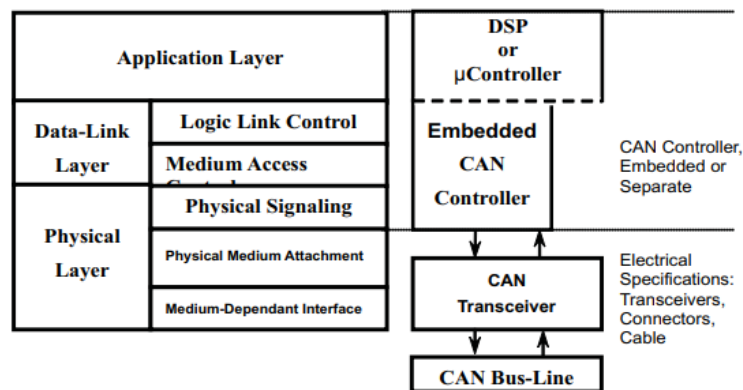

Figure 1. The Layered ISO 11898 Standard Architecture
Introduction: The CAN bus was developed by BOSCH (1) as a multi-master, message broadcast system that specifies a maximum signaling rate of 1 megabit per second (bps). The CAN Standard CAN is an International Standardization Organization (ISO) defined serial communications bus originally developed for the automotive industry to replace the complex wiring harness with a two-wire bus. The specification calls for high immunity to electrical interference and the ability to self-diagnose and repair data errors. These features have led to CAN's popularity in a variety of industries including building automation, medical, and manufacturing. The CAN communications protocol, ISO-11898:2003, describes how information is passed between devices on a network and conforms to the Open Systems Interconnection (OSI) model. that is defined in terms of layers. Actual communication between devices connected by the physical medium is defined by the physical layer of the model. The ISO 11898 architecture defines the lowest two layers of the seven layer OSI/ISO model as the data-link layer and physical layer in Figure 1.